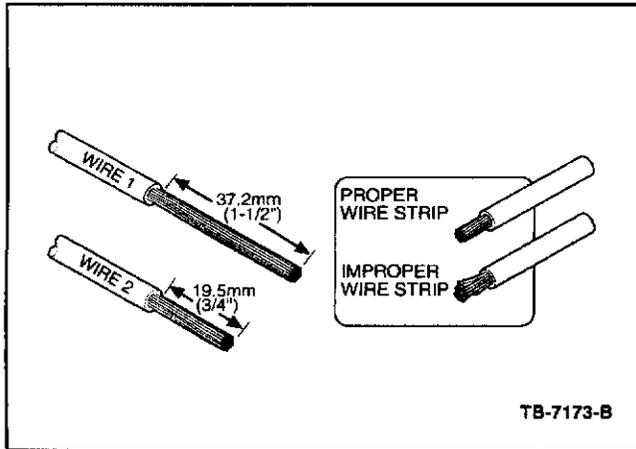

Figure 3 - Article 05-18-7
1. Strip 1 1/2" (37.2mm) of insulation from Wire #1 and 3/4" (19.5mm) of insulation from Wire #2, taking care not to nick or cut wire strands (Figure 3). Pull wire straight from stripper. If wire is pulled at an angle, wire strands may be cut off. If more than one (1) strand is cut off during stripping, cut off the end and re-strip.